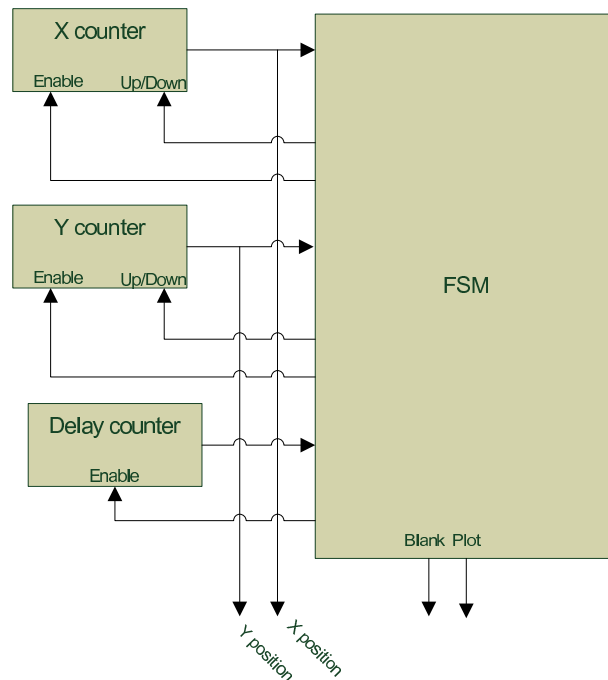

Figure 5: Suggested circuit layout for creating an animation
There is a simple way to do that when the screen background is black. First, we draw an image at location (X,Y). Then to move the image we simply draw a black box on top of the image (using the erase function of the circuit from step 1) and redraw the image somewhere else. A suggested circuit is shown in figure 5, and you may use it as a starting point.
1. Create a circuit to change the location of the top left corner of where the image is to be drawn, once every 60th of a second. You may use circuit shown in figure 5 as a reference.